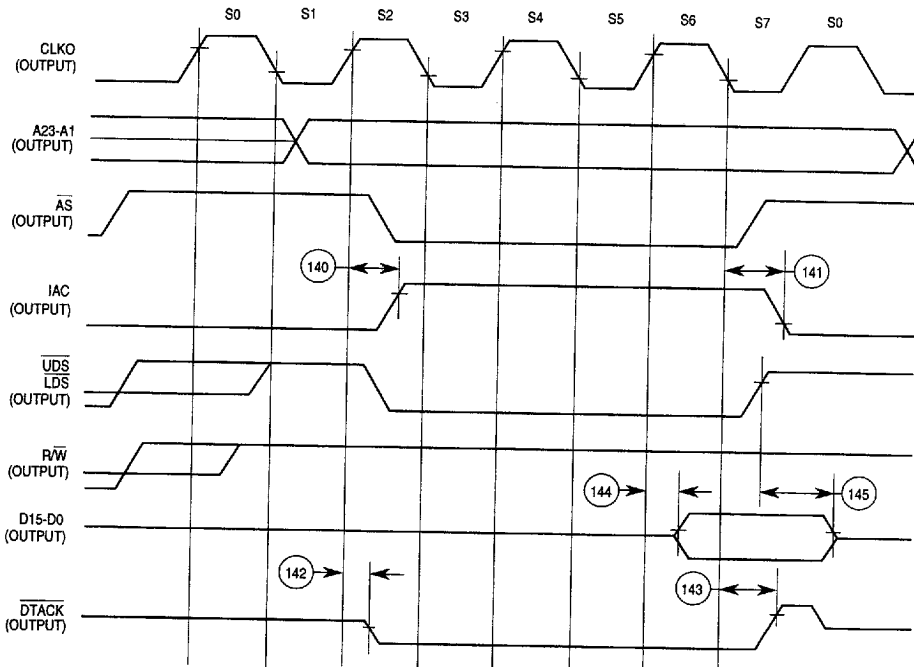

Figure 6-13. Internal Master Internal Read/Write Cycle Timing Diagram
6.12 AC ELECTRICAL SPECIFICATIONS—INTERNAL MASTER INTERNAL READ/WRITE CYCLES (see Figure 6-13)